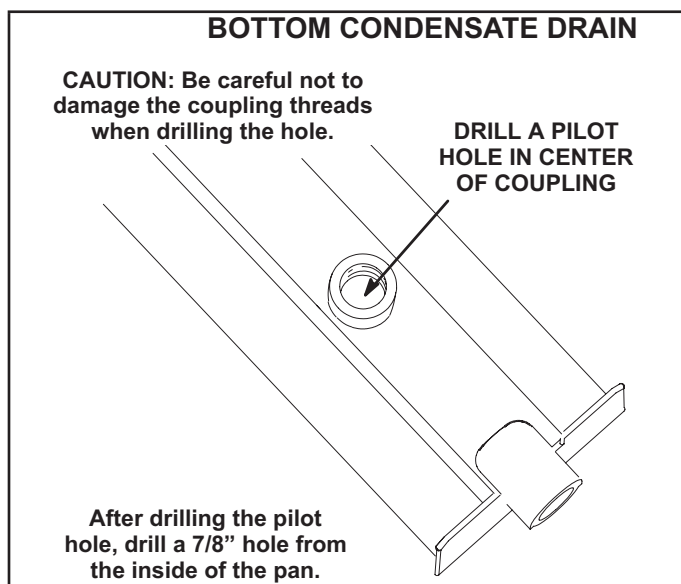

**FIGURE 11**
- 3 - Turn the drain pan upside down and drill a pilot hole through the bottom of the drain pan in the center of the coupling. See FIGURE 11.